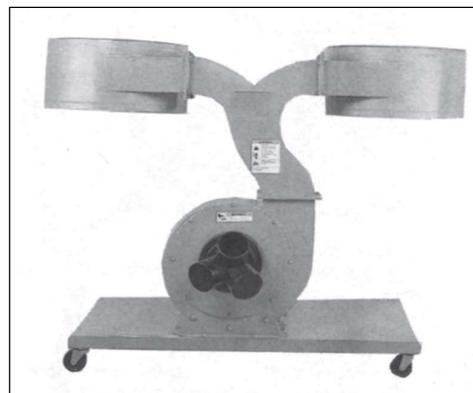
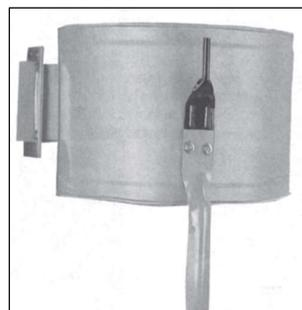

Fig. 4
Fig. 5
4. Attach the 2 collector housings to the connector tube (Fig. 4), with hex head bolts, washers, and nuts. Check that the 2 holes on the outside of each drum that are used to attach the support brackets (Fig. 5), are at the bottom half of the drum as shown.
5. Attach support brackets to base using hex head bolts and washers. Do not tighten at this time. Insert hanger bracket (Fig. 5) between support brackets and collector housing. Align holes and secure with hex head bolts, washers, and nuts. Use two washers per bolt – both inside and outside the collector housing. Tighten all support bolts.